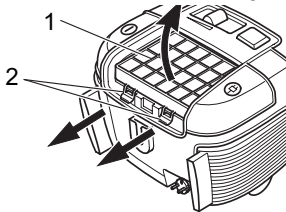

Fig. 33
3. Remove the filter (Fig. 33/1). To do this, pull the locks (Fig. 33/2) back and lift the filter up and out.